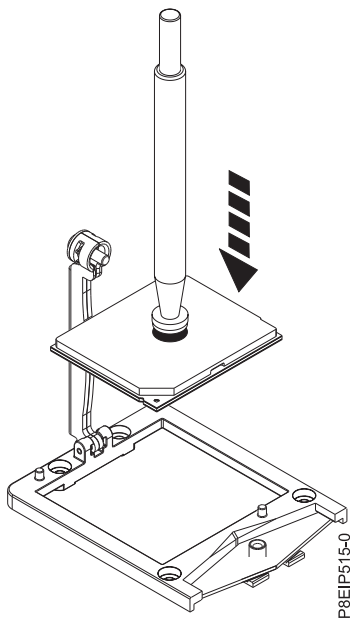

Figure 83. Lowering the processor into the socket
- a. Lower the pen and system processor module onto the socket as shown in Figure 83. Align the beveled corner of the processor with the beveled corner on the socket. Use care to lower the tool evenly without tilting the processor.